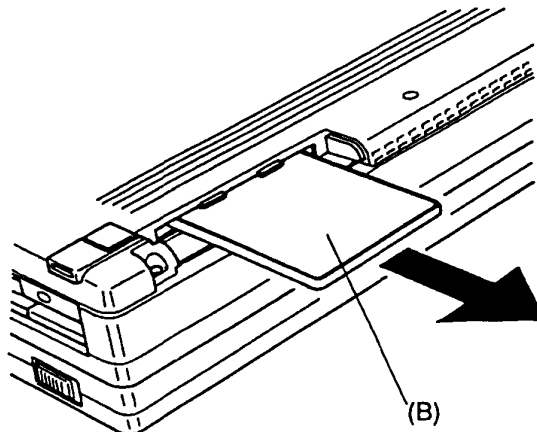

Figure 4-4 Removing the optional memory card
4. Remove the optional memory card (B) from the system unit (Figure 4-4).